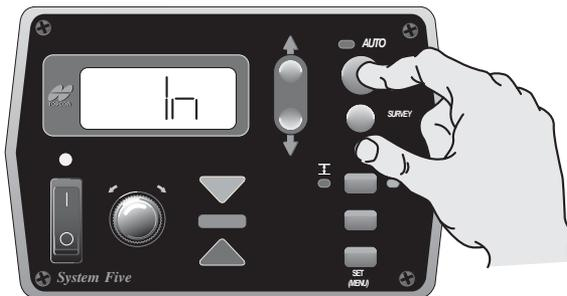

Figure 4-24. Storing Menu Value
- Press the Auto button again to store value (Figure 4-24).